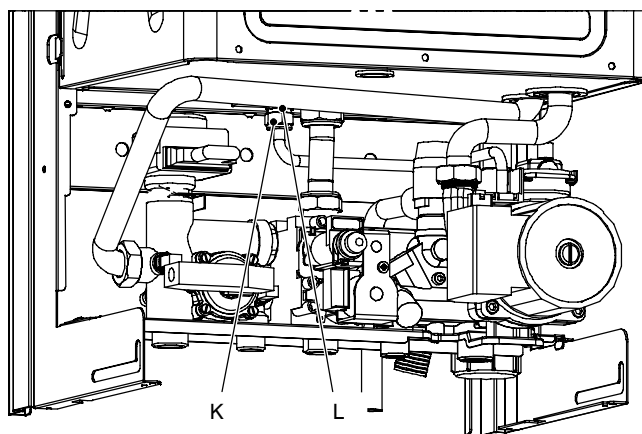

Fig. 64
- 2 Completely unscrew the connection K, the lock nut L (Fig. 64) and remove the expansion vessel from the top of the boiler.